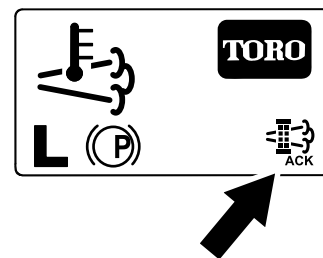

Figure 59
8. The InfoCenter displays the home screen and the regeneration acknowledge icon (Figure 59) appears in the lower right corner of the screen as the regeneration processes.